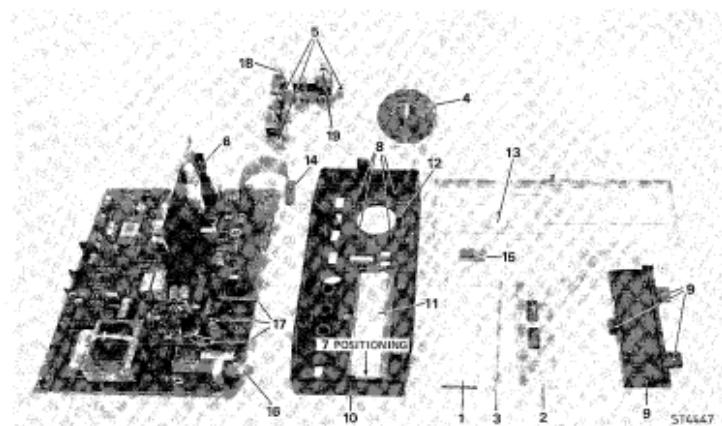

Fig. 5.4. Front assembly
Liquid crystal display (Fig. 5.4, item 1), display unit N4 (Fig. 5.4, item 2), interconnection rubber (Fig. 5.4, item 3) or function knob (Fig. 5.4, item 4).
- Remove the three screws which attach N3 to the front (Fig. 5.4, item 5).
- Remove the function knob by bending out the four hooks of the front plate (only for replacing the function knob) (Fig. 5.4, item 8).
- Remove the three screws from the display unit cover and the cover itself (Fig. 5.4, item 9).
NOTE 1: Make sure that the L.C.D., the display unit cover and the interconnection rubber are placed in the most right hand position (Fig. 5.4, item 7).
Function switch (Fig. 5.4)
- Bend out the two hooks and remove the printed-circuit board (Fig. 5.4, item 6).